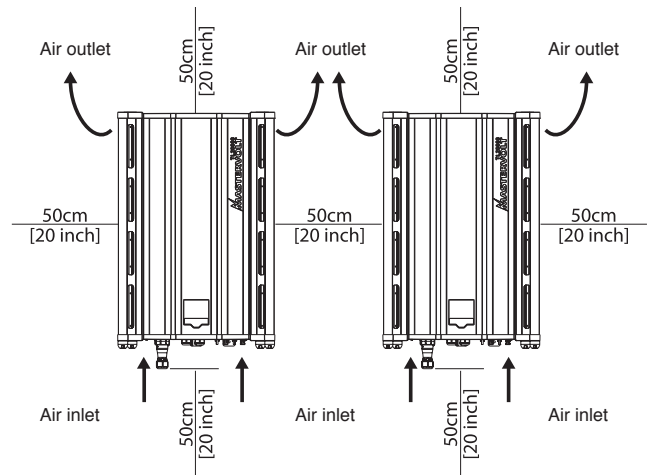

Figure 4-1: Mounting distance
- Keeping at least 50 cm space around the CS inverter is recommended, see fig. 4-1.